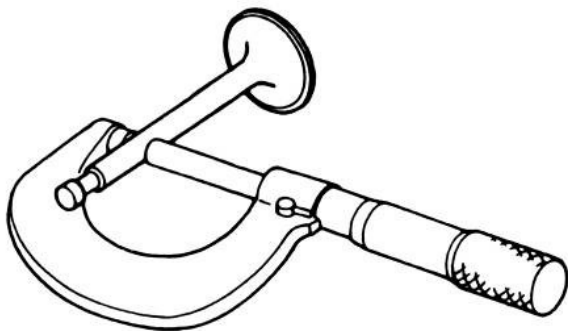

Figure 4-18: Check Valve Stem Diameter
- See Figure 4-18. Verify the valve guide bore is straight, round, and centered in the guide.